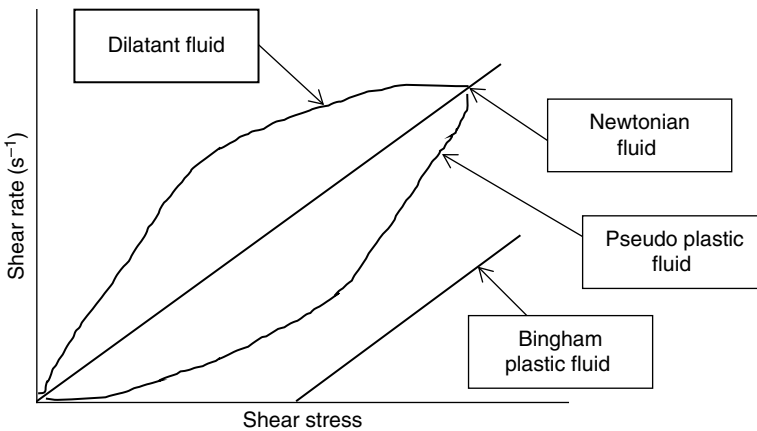

Figure 7.2 Shear versus stress for a variety of fluid types.
- 4) Bingham plastic. This is an unusual fluid type whose viscosity versus shear curve is similar to a Newtonian fluid but not until a certain stress level is reached. In other words, the fluid is semisolid until a certain level of shear is applied, and then it begins to flow as a Newtonian fluid. Examples include drilling fluids and muds and catsup (ever tried to get catsup to flow out of a bottle?). A graphical display of these different classes of fluids is shown in Figure 7.2.